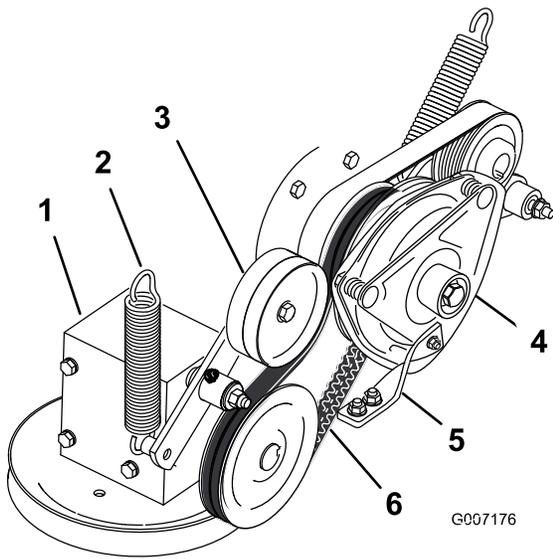

Figure 92
4. Remove the spring from the idler arm (Figure 92).
7. Install the PTO-drive belt around the clutch pulley and the gearbox pulley (Figure 92).
9. Install the spring to the idler arm (Figure 92).